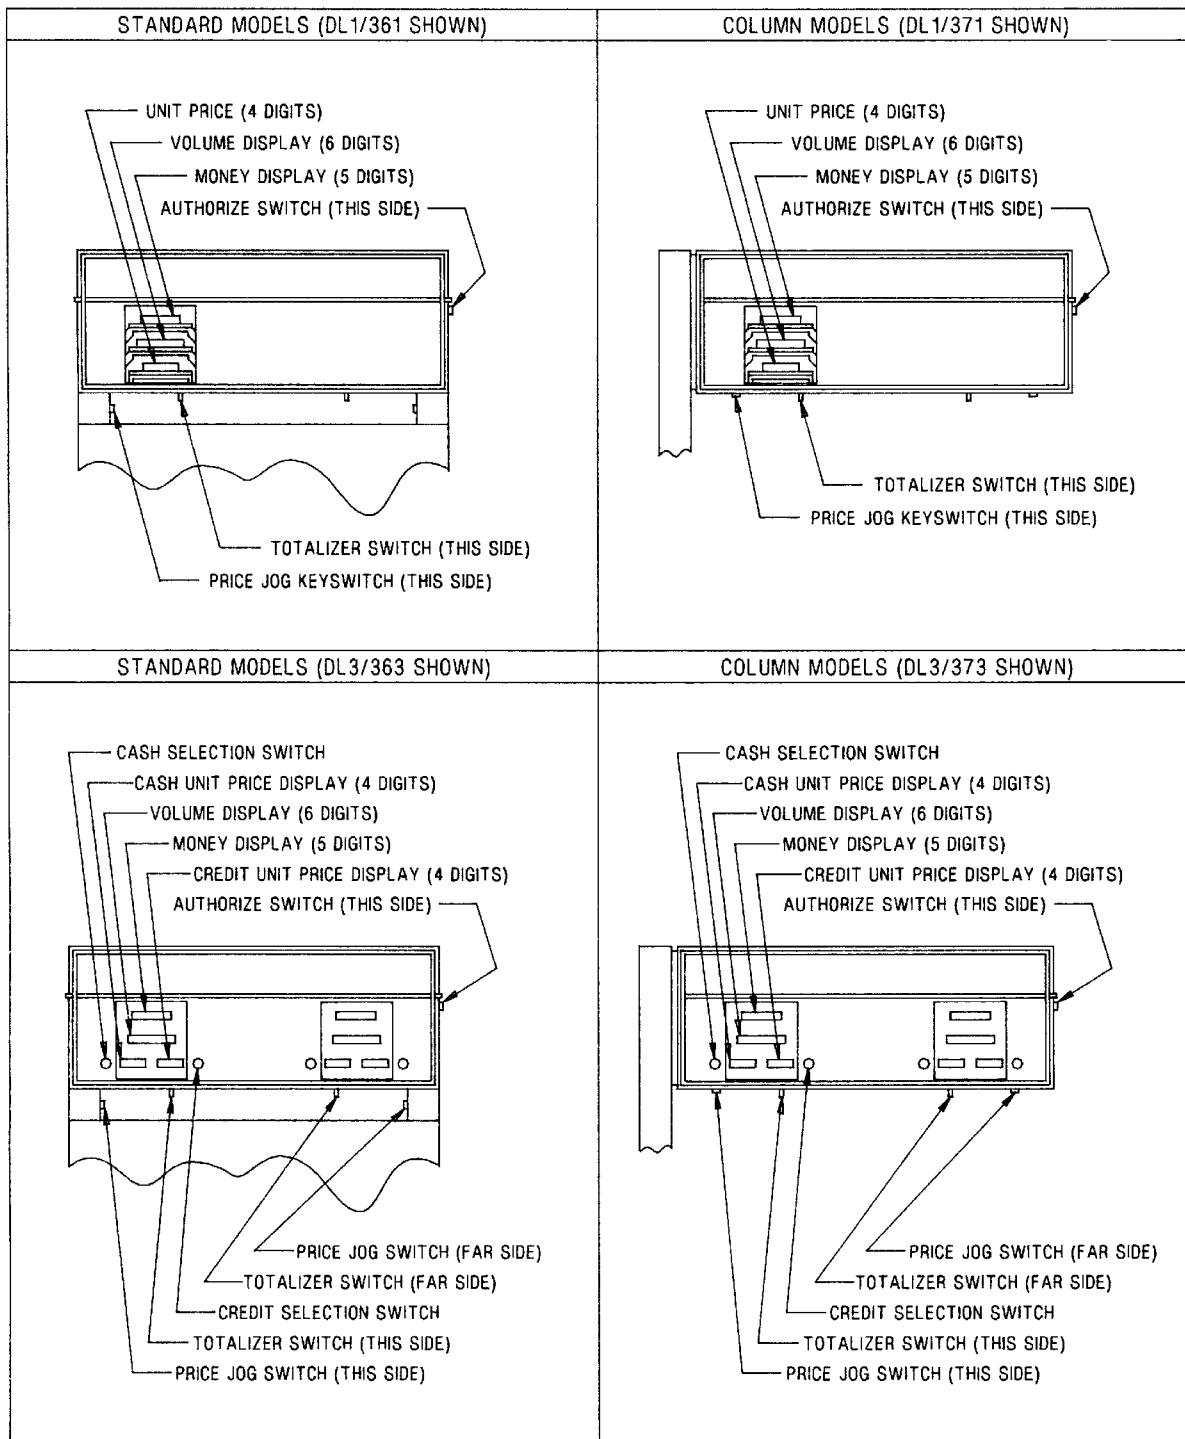
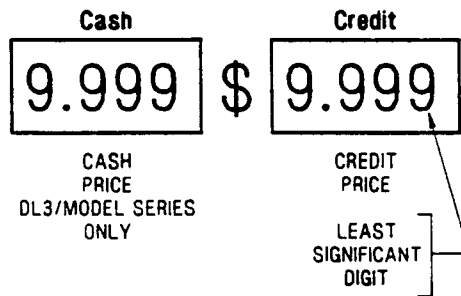
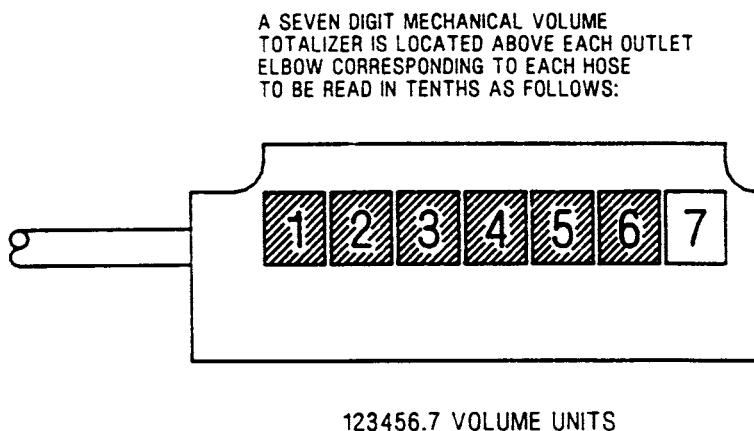

FIGURE 3-3. TYPICAL COMPUTER ASSEMBLY FUNCTIONS AND SWITCH LOCATIONS. Older models may have the Price Jog switch on the outside of the head.
FIGURE 3-4. UNIT PRICE. *The decimal point location can be changed using SW1, see Figure 3-2.*
FIGURE 3-8. MECHANICAL TOTALIZER. Some older remote models may read to the 1/100ths of a volume unit.
1. The Price Jog keyswitch is used to enter the fueling point setting mode. The Totals switch (pushbutton) sets the fueling point number; see Figure 3-3. for switch location.
4. To set the fueling point number, press and hold the Totals pushbutton. The two least significant digits (see Figure 3-4.) of the unit price display will cycle 01 through 24. Release the Totals pushbutton when the correct fueling point number is displayed.
The Price Jog keyswitch (a momentary, ON-OFF switch) is used to set unit prices. See Figure 3-3. for switch location. See Figure 3-4. for Unit Price layout.
If the dispenser is equipped with the Cash/Credit pricing option, the credit price is set first, then the cash price is set. The first closure of the Price Jog keyswitch selects the least significant digit of the credit price, see Figure 3-4. The digit cycles 0 through 9 until the keyswitch is released. Each successive closure of the Price Jog keyswitch selects and advances the next most significant digit.
The Authorize keyswitch (see Figure 3-3.) permits dispenser operation either with or without console control. In the self service position (keyswitch turned counterclockwise), the dispenser must be authorized by the console before each use. In the full service position (keyswitch turned clockwise), the dispenser may be operated repeatedly without authorization from the console. There is an Authorize keyswitch for each fueling point.
Each fueling point of the dispenser maintains four electronic totalizers in dispensers equipped for Cash/Credit operation and three electronic totalizers in dispensers without Cash/Credit option; see Figure 3-3. for the location of the Totals switch.
Read and record the mechanical totalizer (Figure 3-8.). Activate the Totals switch (see Figure 3-3. for switch location) and record the electronic money and volume totals (Figure 3-9.). These reading must be given to the station manager in order to maintain accurate accounting.